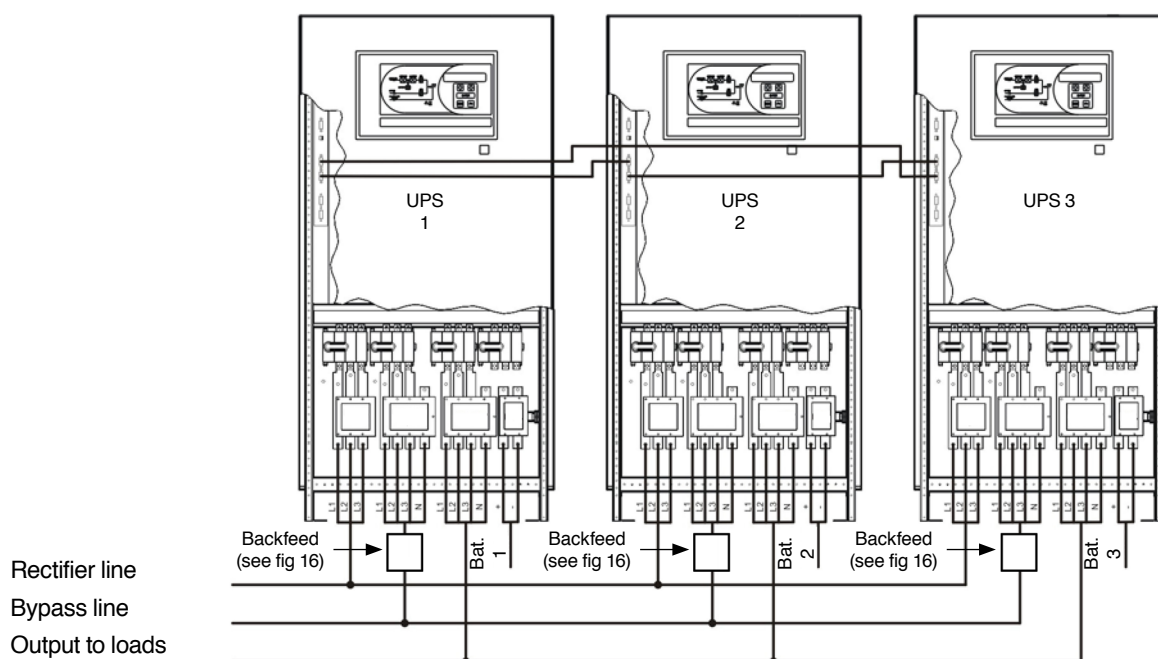
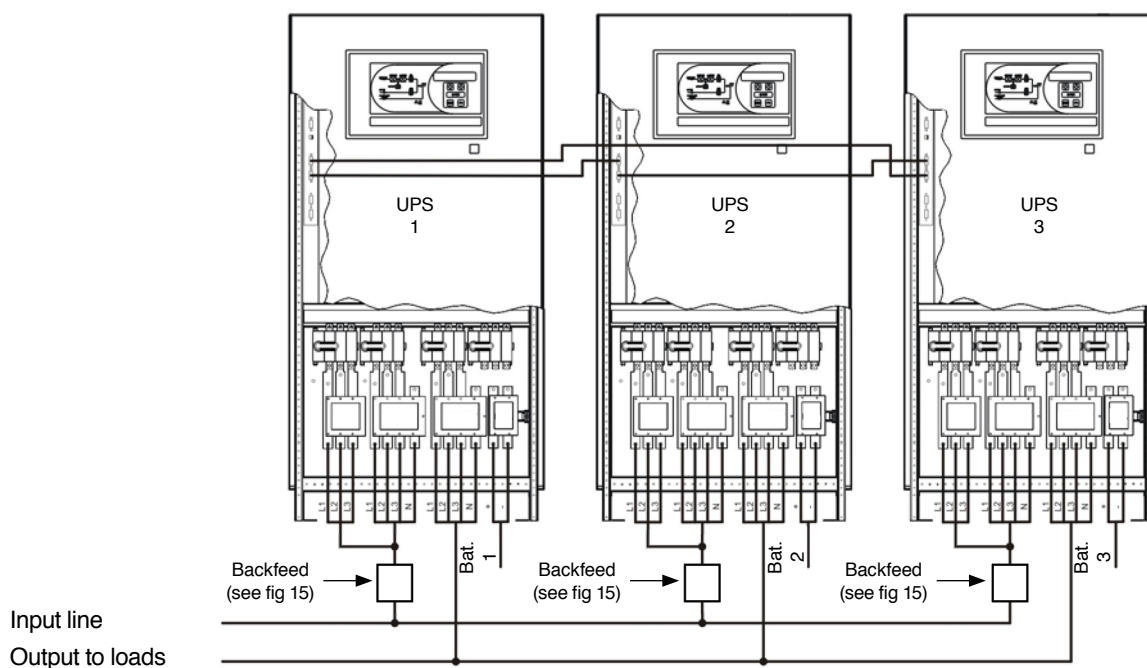

Fig. 23. Example of connection of UPSs XTRA-P from 100 to 160 kVA, with separate bypass line.
Fig. 24. Example of connection of 3 UPSs XTRA-P-CB from 100 to 160 kVA.
- Diagrams from figures 23 to 26 shows as an example the connection of three equipments in parallel of different power rates, with separate bypass line (see fig. 23 and 25), and with common bypass line (see fig. 24 and 26).